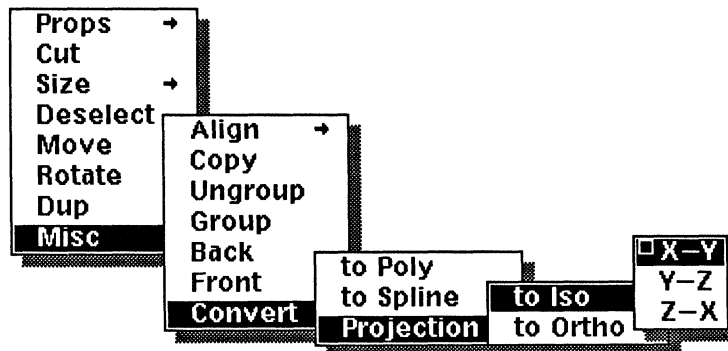

Figure 24-31. Misc Convert Projection to Iso(metric) submenu
- ✓ Execute the appropriate command on the To Iso(metric) submenu (Figure 24-31).